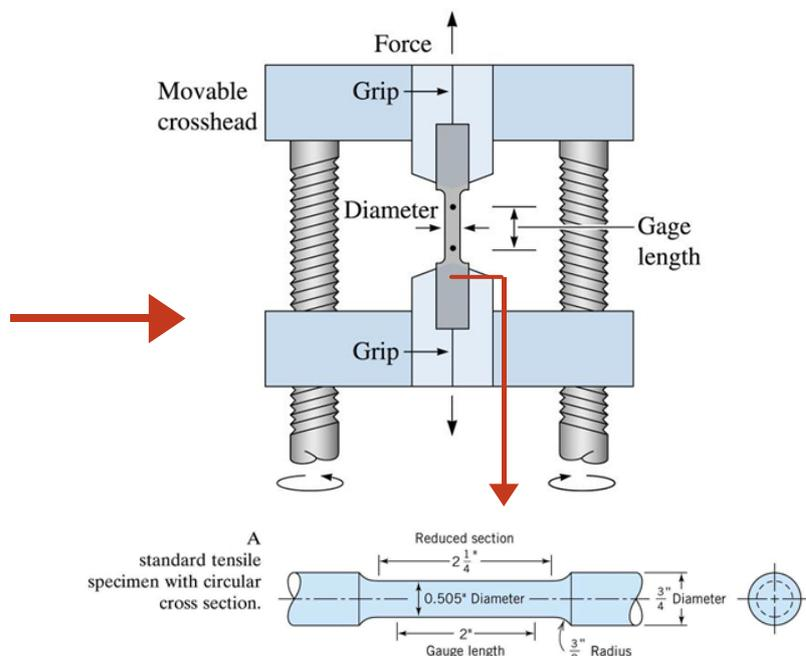

Figure 3.5 : The apparatus used to conduct tensile stress-strain test.
- **Figure 3.5** depicts a typical stress-strain testing apparatus, as well as a diagram of the apparatus and the typical geometry of a tensile test specimen.